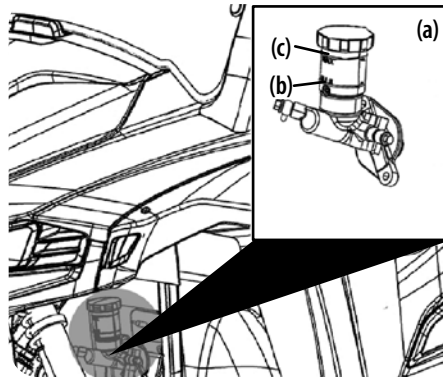

Figure 5-15
- Check to see that the brake fluid level on the brake fluid reservoir (a) is up to the MIN (b) level. See Figure 5-15.